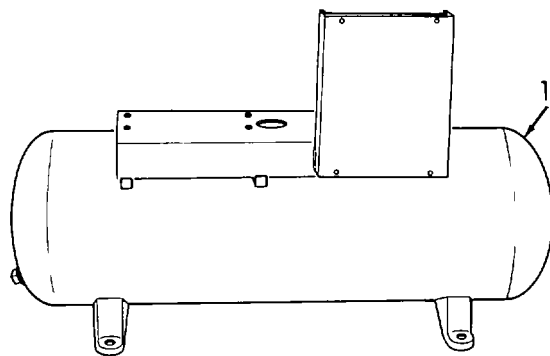

Figure 3-39. Tank, Removal.
- a. *Removal.* Remove tank (1, Figure 3-39).